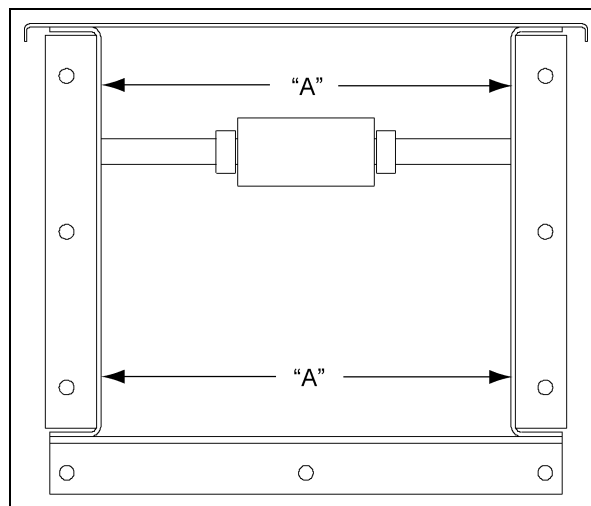

Figure 6D
**NOTE:** When installing UHMW roller returns, check that they are centered within the box. It is important that the inside dimensions of the box are equidistant from the bottom plate to the roller/slide rail shafts. (See Figure 6D.)